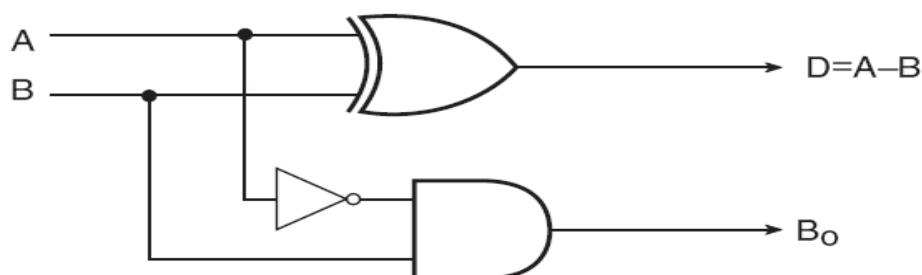

Fig 3.4
3.2.3 Half-Subtractor A half-subtractor is a combinational circuit that can be used to subtract one binary digit from another to produce a DIFFERENCE output and a BORROW output. The BORROW output here specifies whether a '1' has been borrowed to perform the subtraction. The truth table of a half-subtractor, as shown in Fig 3.4 The Boolean expressions for the two outputs are given by the equations
While the expression for the DIFFERENCE (D_ output is that of an EX-OR gate, the expression for the BORROW output (Bo_ is that of an AND gate with input A complemented before it is fed to the gate. Figure 3.4 shows the logic implementation of a